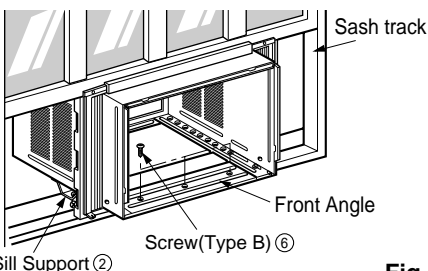

Fig. 5
- 6 The cabinet should be installed with a very slight tilt (about 1/2") downward toward the outside (See Fig. 5).